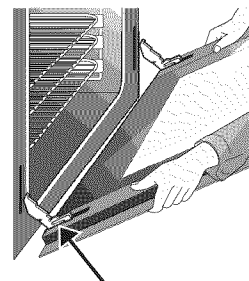

Figure 35: Holding door for removal
4. Keep pulling the bottom of the door toward you while rotating the top of the door toward the appliance to completely disengage the hinge levers (Figure 35).
1. Firmly grasp both sides of oven door along the door sides. Do not use the oven door handle (Figure 35).
2. Holding the oven door at the same angle as the removal position, seat the hook of the hinge arm over the roller pins located on each side of the oven door frame (Figure 35). The hook of the hinge arms must be fully seated onto the roller pins.